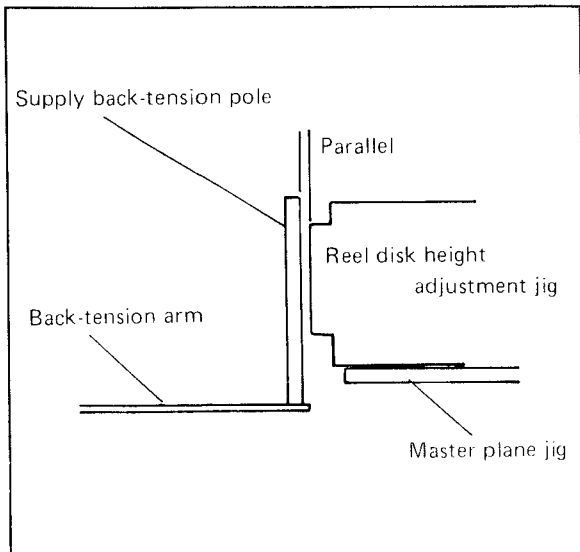

Fig. 5-24
6. Place the reel disk height adjustment jig on the master plane jig and adjust the tilt of the tension pole as shown in Fig. 5-24.